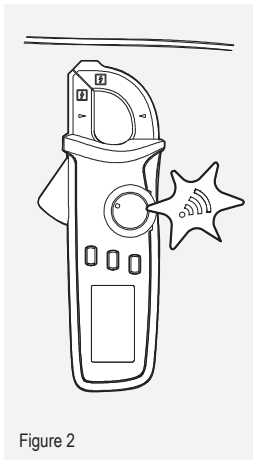

Figure 2
2. Place the NCV sensor next to a conductor with a gap of 8 – 15 mm (figure 2). The current clamp will send the following signals if a current is detected: